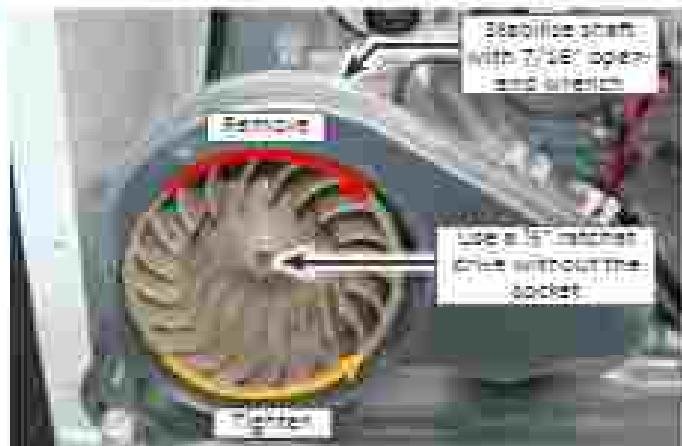

Figure 2 - Remove Blower Wheel
NOTE: Refer to Figure 2 for the following 2 steps.
6. Reach around to the back of the blower housing and attach a 7/16" open-end wrench to the hex-end of the motor shaft. Insert a 3/8" ratchet drive into the blower wheel square hole (see Figure 2).
7. Turn the blower wheel clockwise (shown by the "CLOCKWISE" arrow that is embossed on the front of the wheel) and remove the wheel from the motor shaft (see Figure 2).